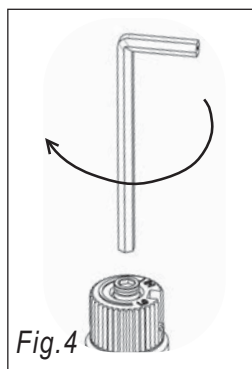

Fig. 4
- 18) Using the Allen wrench as shown in Fig.4, rotate the screw clockwise until snug, do not overtighten.